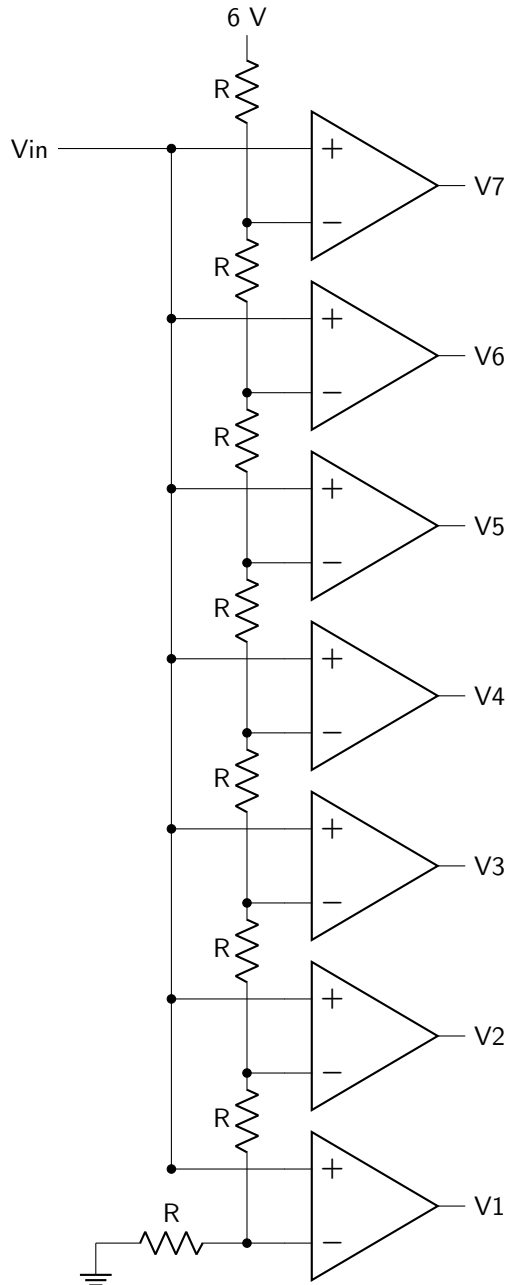

Figure 6.10: 3-bit analog to digital converter.
1. Use the voltage divider rule to calculate at what input voltage each op-amp in the 3-bit ADC shown in figure 6.10 will saturate. Ensure that each of your calculations is clearly labeled as V_7 , V_6 , etc.